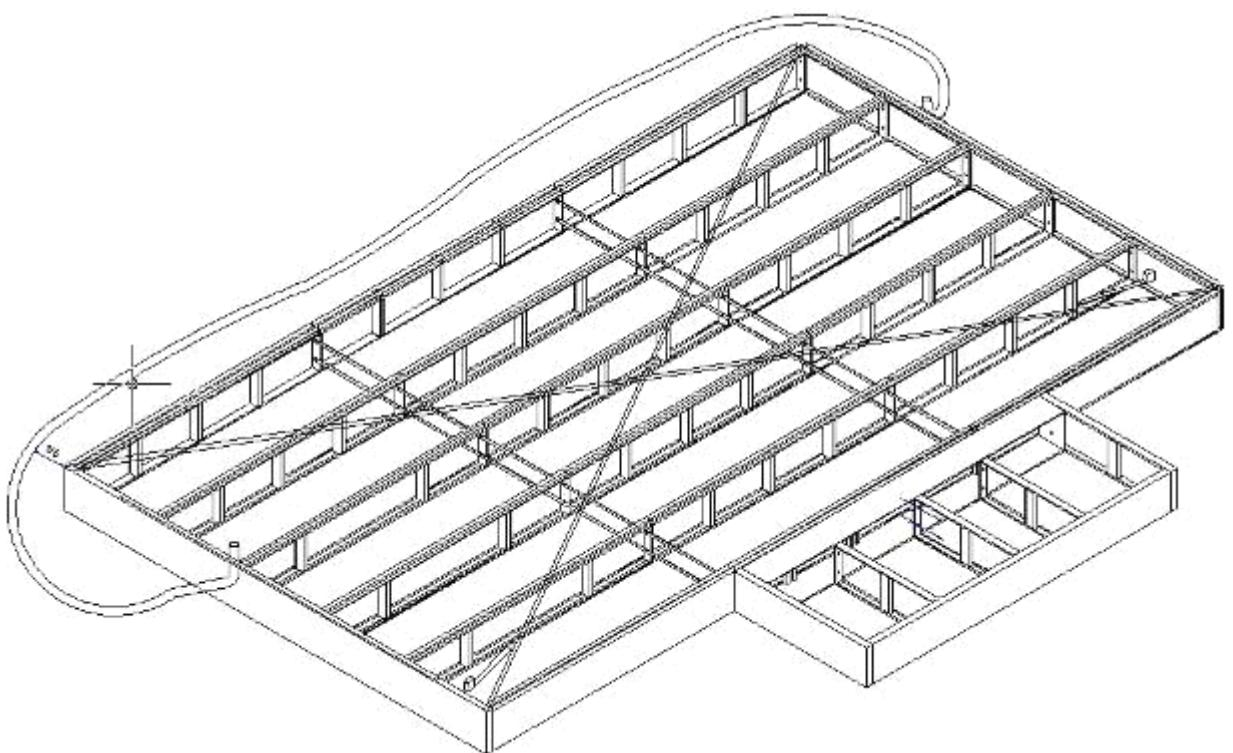

Fig. 3.5
2. Adjust the level of the connect point: find the highest point with the level measure apparatus, then elevate other points with something. Shown in Fig.3.5
3. Adjust the uprightness: adjust the side boards and middle bracket with beeline, and distribute the distant between the rows, so that we can put the grids easily. Shown in Fig.3.5.
4. Check that all the longitudinal pieces have been mounted perfectly perpendicular to the end heads, to do this measure the two diagonals between the corner of the anterior end head and the opposite corner of the anterior end head, if they show the same values we are certain that it is assembled correctly. and the error value should be less than 5mm (shown in Fig.3.5).
5. Installate the bottom of the heat-air generator: the air out mouth should be connect with the metal sides board. (shown in Fig.3.5)